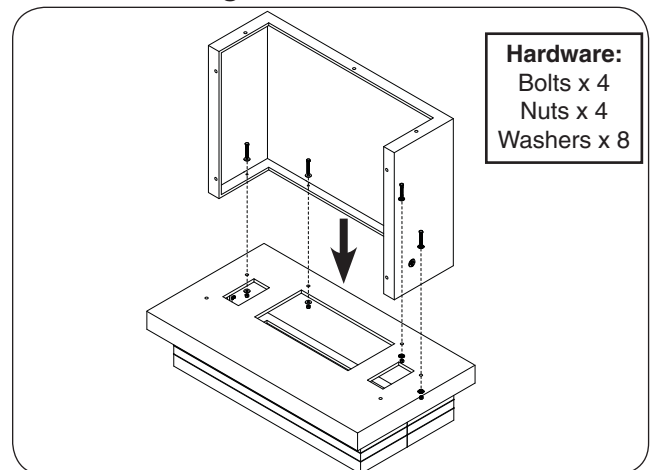

Fig. 14-4 Assemble body
2. Place the body piece on top of the shelf. Carefully align the pilot holes, and repeat the hardware installation process. See Fig. 14-4.